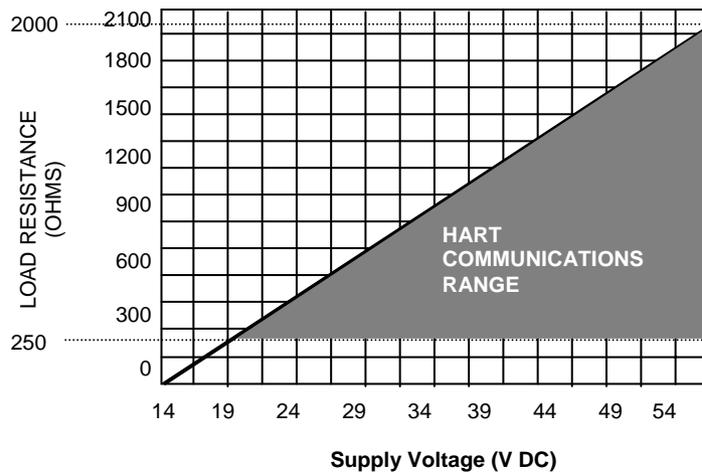

Figure 1-1 Supply Voltage Requirements, HART and Analog Versions
Loop Load Limits	Refer to Figure 1-1
The signal wiring supplies all power to the transmitter. The power supply limits are 14.0 Vdc to 53 Vdc (14.0 to 42 Vdc for agency certified installation). The minimum supply voltage (Figure 1-1) is determined by the loop resistance (R) as follows: